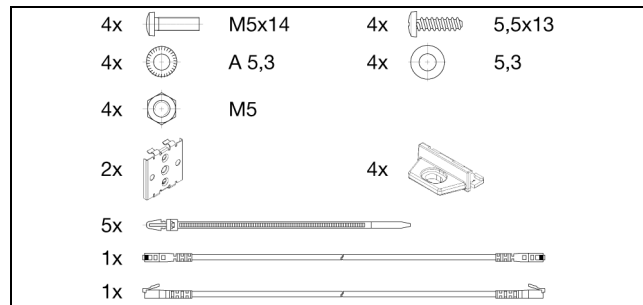

Fig. 1: Accessories supplied loose
- Accessories supplied loose (fig. 1)